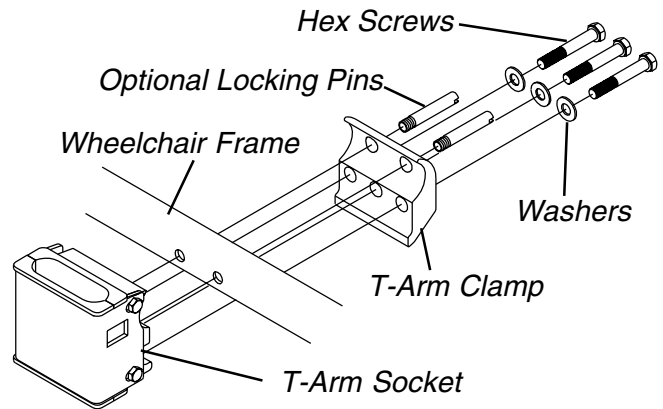

FIGURE 1 - INSTALLING THE T-ARM SOCKETS
NOTE: If desired, locking pins can be installed to secure the T-arm brackets to the wheelchair frame, as shown in FIGURE 1.
INSTALLING THE T-ARM SOCKETS (FIGURE 1)
- Position the T-arm socket and T-arm clamp on the wheelchair frame as shown in FIGURE 1.